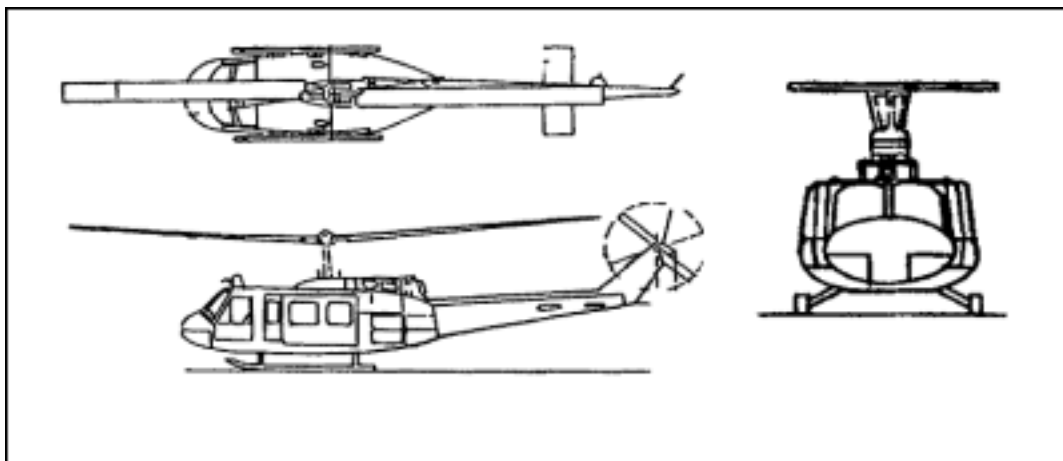

Figure B-5. UH-1H (Iroquois).
- a. **UH-1H Iroquois.** Table B-5 shows specifications for the Iroquois; Figure B-5 shows the aircraft from three angles: